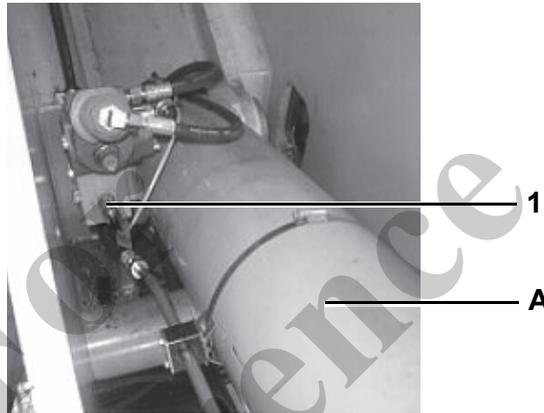

Fig. 70 Pressure sensors on the luffing cylinder
The pressure sensors (1) in Fig. 70 measure the pressure on the piston head and on the rod side of the luffing cylinder (A) in Fig. 70.